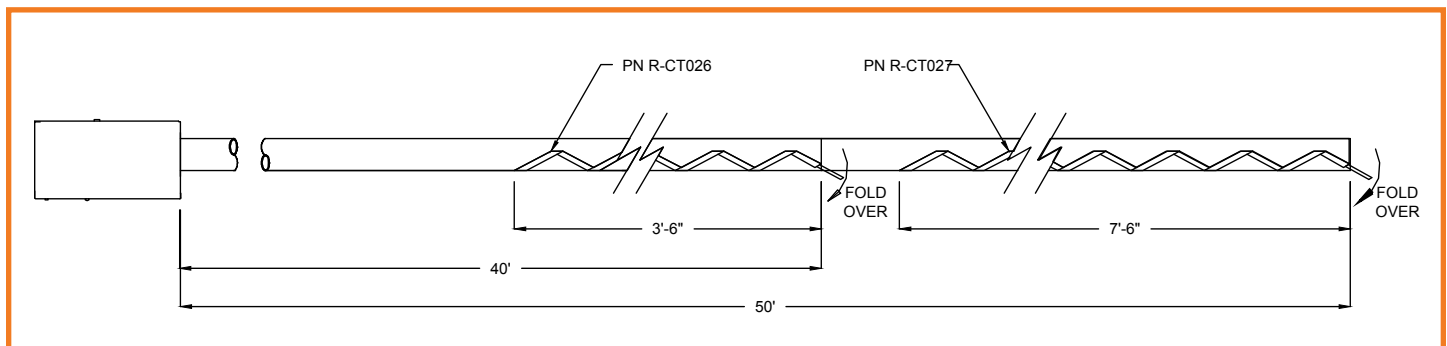

Figure 3: Baffle location for all ES/ESH-205, 250,000 btu/hr, 50ft models ONLY (P/N T-CT095 Baffle Kit)
- 205,000 BTU/Hr 50' heat exchanger with a 4' baffle at 40', and an 8' baffle at 50'. (See figure 3)